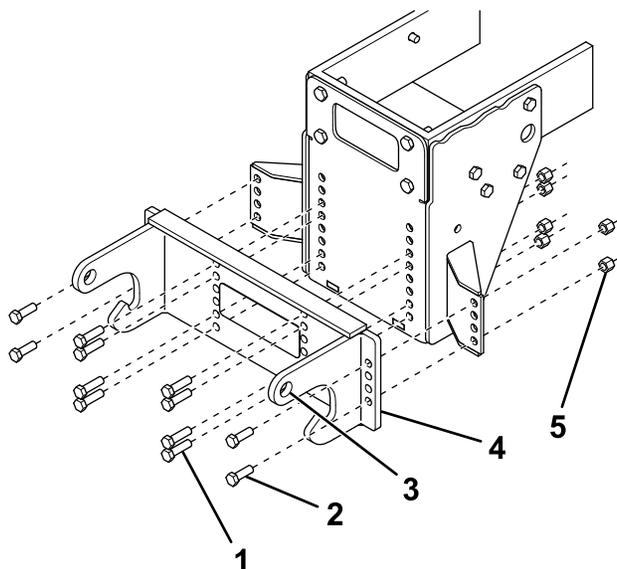

Figure 6
- Secure the outer holes of the pushbeam to the side gussets using 4 bolts (1/2 x 1-1/2 inches) and nuts (Figure 6).
- Secure the inner holes of the pushbeam to the front plate using 8 bolts (1/2 x 1-3/4 inches) and nuts (Figure 6).